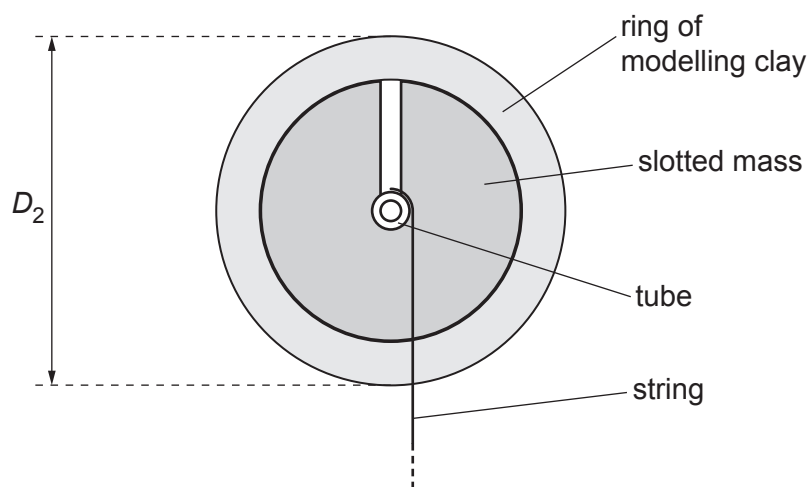

Fig. 2.4
Using **all** the modelling clay, roll the modelling clay into a long cylinder and bend it to form a ring around the outside of the slotted mass, as shown in Fig. 2.4. Ensure it is securely attached to the slotted mass.
- Measure and record the outside diameter  $D_2$  of the ring of modelling clay, as shown in Fig. 2.4.